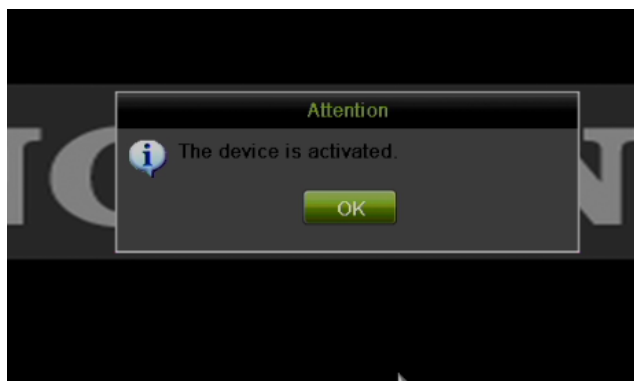

Figure 21 Activation Confirmation Message
3. After an acceptable password has been created, a confirmation message will appear on the screen (**Figure 21**).